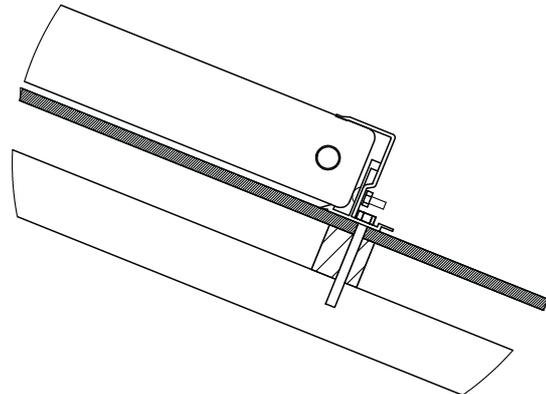

Figure 16 - Mount Collector on Roof
- Drill through the roof iron and purlin using the upper mounting rail as a guide. Apply some silicone sealant down the holes to ensure no water leakage and secure with suitable fasteners as shown in **Figure 16**. Alternatively the rail can be attached to the roof using the collector mounting straps.